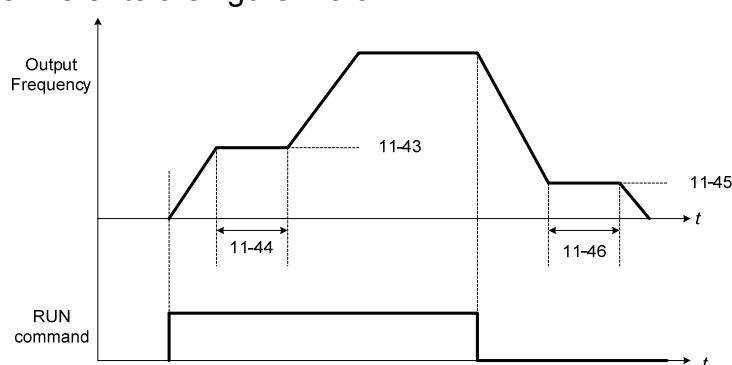

Figure 4.3.94 Retaining function
- . The acceleration or deceleration time does not include the start and stop of the Retaining time. Refer to the figure 4.3.94.